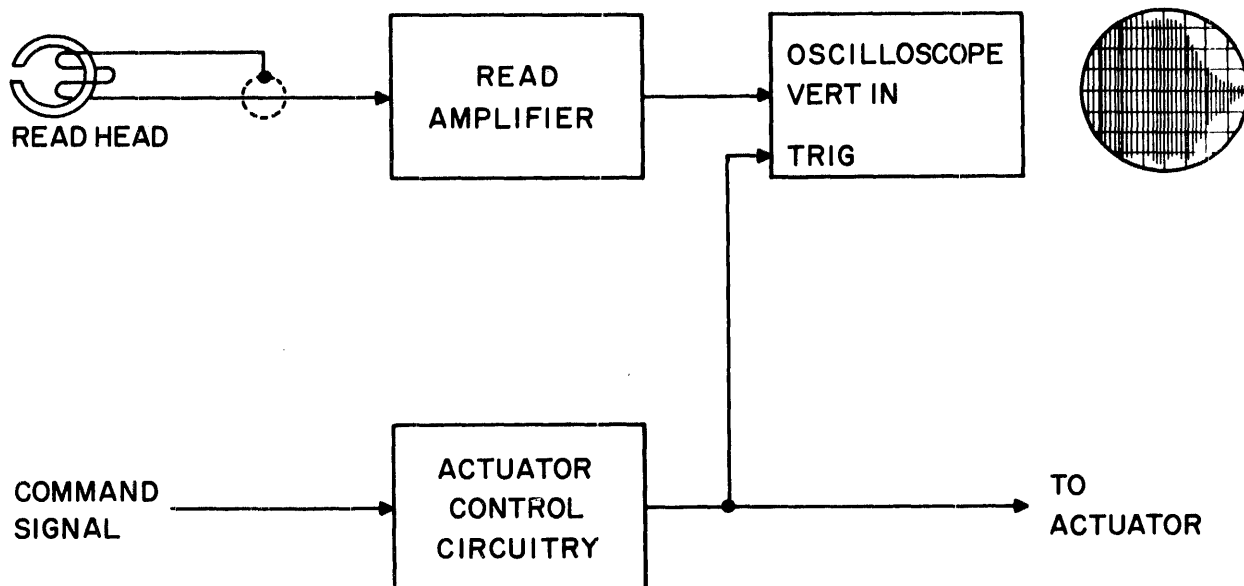

Figure 5-2.
Step 1: Connect test equipment as shown in Figure 5-2.
Step 4: Observe decay time of signal displayed on oscilloscope. Decay time should be 1.8 msec or less. A typical wave-shape is shown in Figure 5-2.